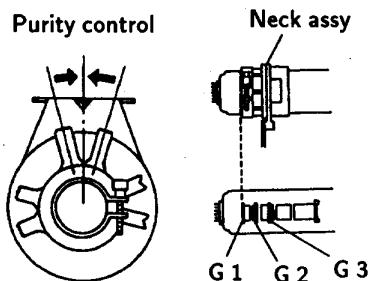

Fig.3-2
- Position neck ass'y as shown in Fig 3-2.